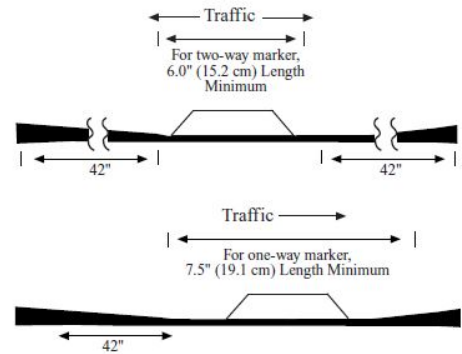

Figure 1. Flat surfaces at the bottom of marker application grooves.
- **Application Surface:** The marker application area of the groove must have a smooth/flat surface that is a minimum of 6 in (15.2 cm) long for one-way applications and a minimum of 7.5 in (19.1 cm) long for two-way applications (See Figure 1). When using a coarse tooth pattern, increase the number of blades and decrease the number of spacers on the cutting head.